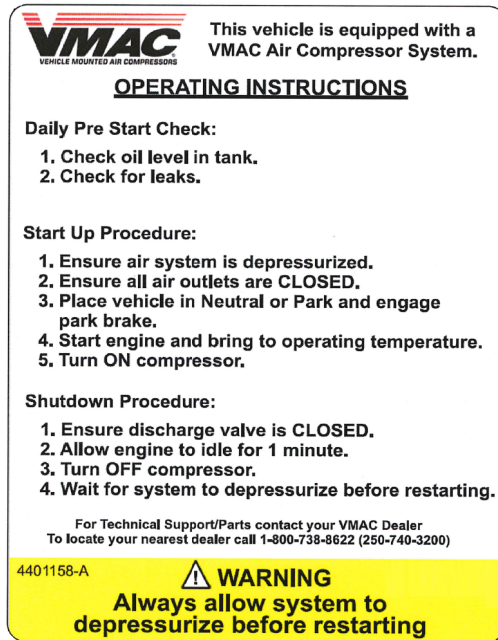

Figure 2 — Operating Instruction label
- ☐ As part of the installation process, ensure that the safety and operational instruction decal is affixed in an obvious location so that it can be seen by vehicle operators. A good spot for this is usually on the inside of the door or on the panel underneath the steering wheel (Figure 2).